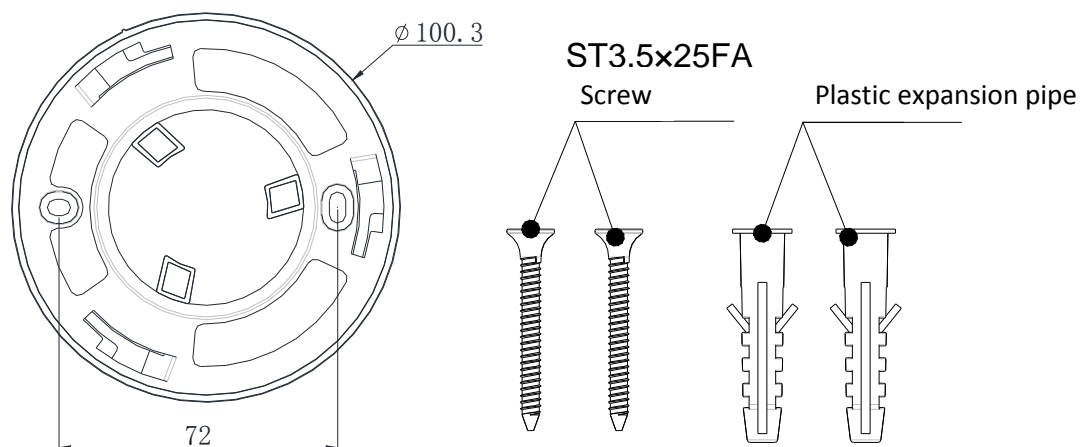
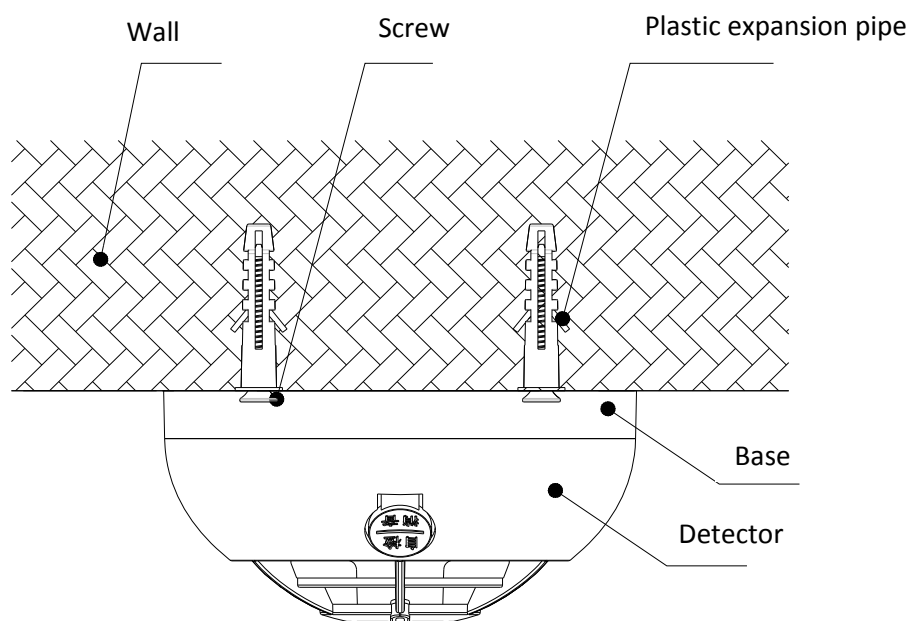

Fig. 2 Base and fixed accessories
Fig. 4 Alarm installation diagram
4.2 Alarm base dimension diagram as shown in Fig.2 (unit: mm)
3.1 Alarm installation diagram is as shown in Fig. 4. According to Fig.4, the alarm is fastened on the roof by plastic expansion pipe and 3.5×25FA screw. Installation hole spacing is as shown in Fig. 2.